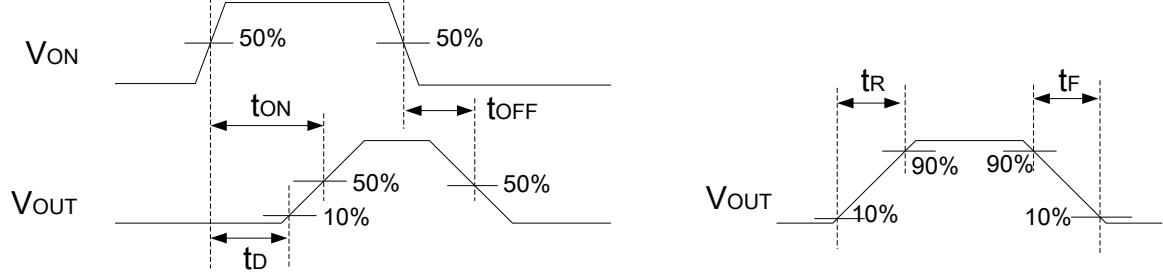

Figure 4. Switching Characteristics Measurement Setup and Definitions
Note(2) t_{ON} / t_{OFF} / t_R / t_F / t_D are defined in Figure 4.